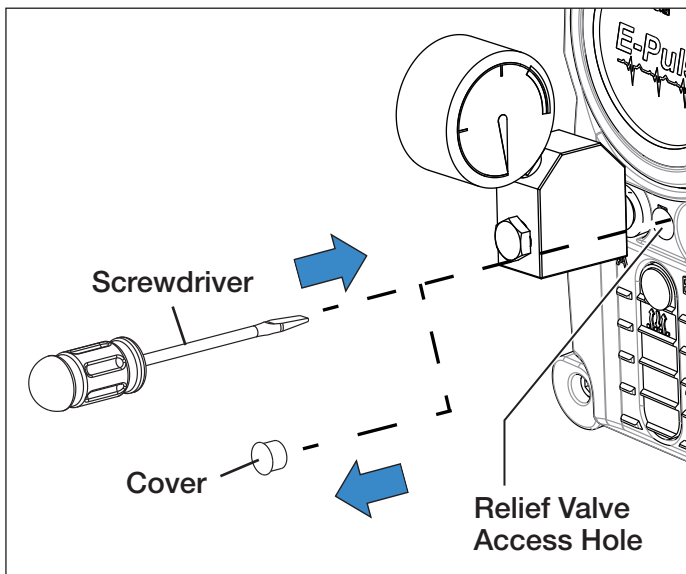

Figure 10, Pressure Relief Valve Adjustment
4. Insert a flat blade screwdriver into the notch above the relief valve access hole. Remove the protective cover. See Figure 10.